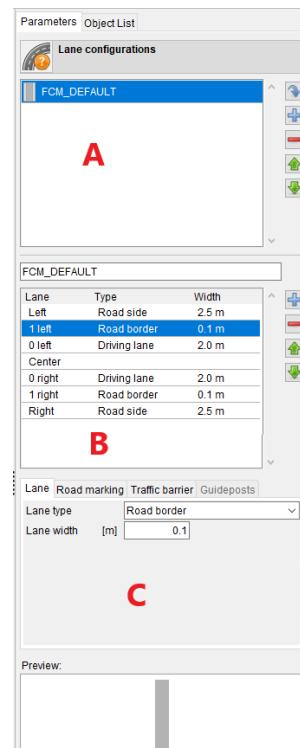

Figure 3.8: Road model to fit FSAE track rules
Before creating a new road segment, one of these lane configurations can be selected and the road segment will adopt this lane definition. However, selection of the lane type must be done prior to the generation of the road segment. If a lane configuration has not been selected, then the topmost lane definition is automatically nominated to create the road segment. The different lane configurations created by the user are saved as a part of the Project Folder. Hence, if a new Project Folder is created, the lane configurations will have to be transferred. Later, we'll learn how to change the width to single segments. In Figure 3.8 the lane configuration dialog is displayed.
- Open the dialog via *Lane configuration* . Press the - button (Figure 3.8 - section A) on the right side to add a new configuration and rename it to "myFSA-Etrack".
- Press the - button (Figure 3.8 - section B) to add seven lanes in total (three left, one center, three right).
- Remove the marking in the center of the road by selecting the ‘Center’ lane and within the *Road marking* tab select “None” in the dropdown menu next to *Line Type* (Figure 3.8 - section C).